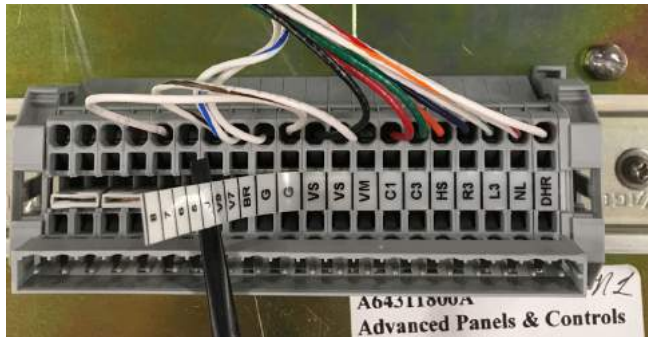

Figure 3. Revealing terminal board jumpers
4. Identify the terminal board containing the control plug receptacle on the lower back panel. Peel back the strip containing the terminal markings in the center of this terminal board using the back-panel tool to reveal the terminal board jumpers. See **Figure 3**.